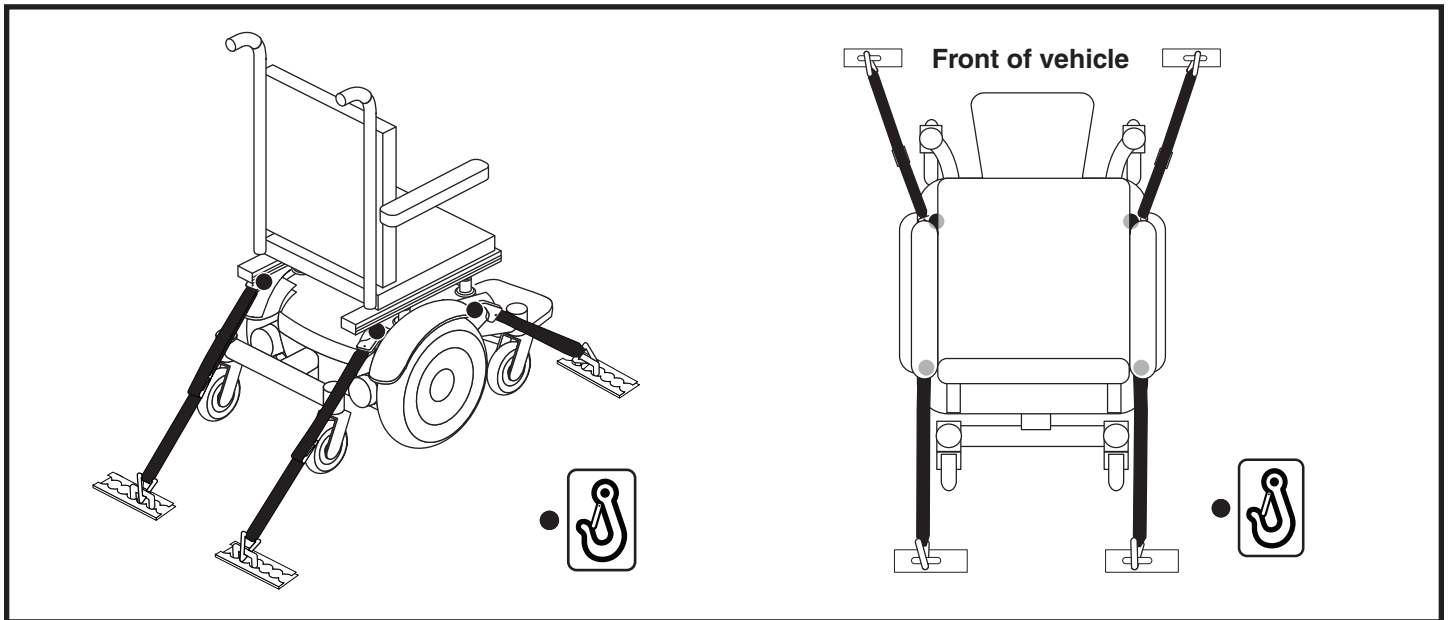

Figure 10. Unoccupied Transit System Securement Points
- Position the anchor points for the rear tie-down straps directly behind the rear securement points on the power chair. The front tie-down straps should be anchored to floor points that are spaced wider than the power chair to provide increased stability. **See figure 10.**